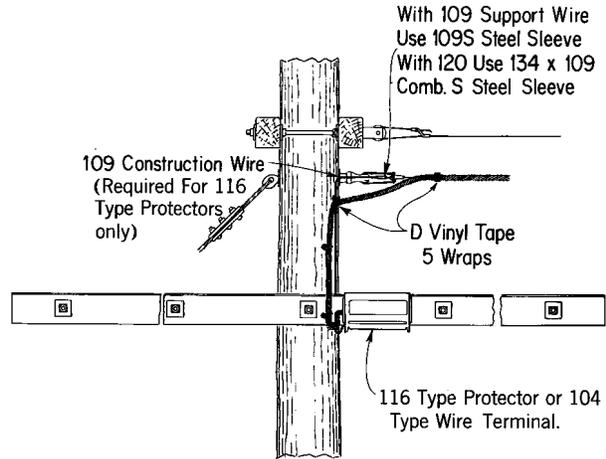

Fig. 14 – Crossarm or Wire Deadend Pole
4.03 At wire deadend poles involving cross-arms, the wire terminals or protectors can be located on the crossarm as shown in Fig. 14.